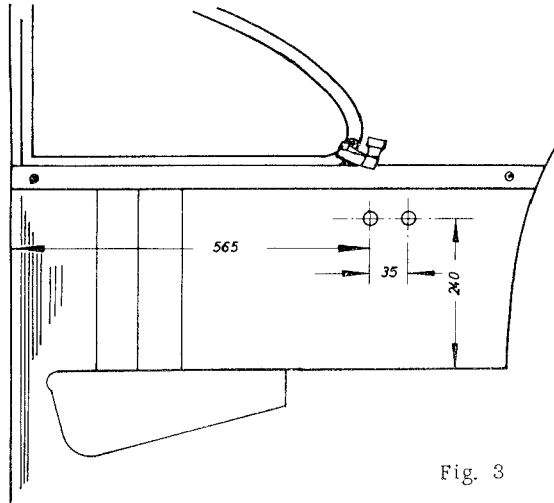
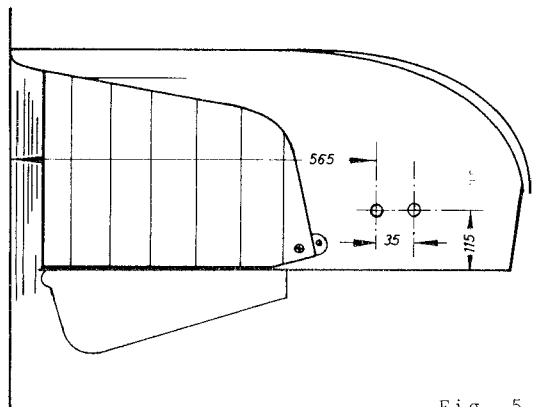

Fig. 3
Fig. 5
3. Trace holes (as per sketch) to fasten the shackles (for the Coupe see Fig. 3 and 4, for the Cabriolet Fig. 5 and 6).